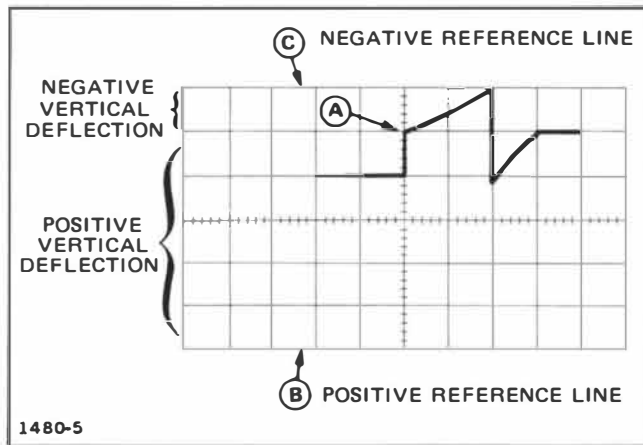

Fig. 11. Dc voltage with respect to a reference line.
Set the INPUT COUPLING switch to DC. Measure the divisions of deflection between A and B (see Fig. 11). Multiply the vertical deflection by the VOLTS-mA/DIV control setting.
**EXAMPLE:** The vertical distance measured in 5 divisions (see Fig. 11), the waveform is above the reference line, and the VOLTS-mA/DIV control is set to .5.
If a negative voltage is to be measured, position the trace to the top graticule line and measure between A and C (see Fig. 11).